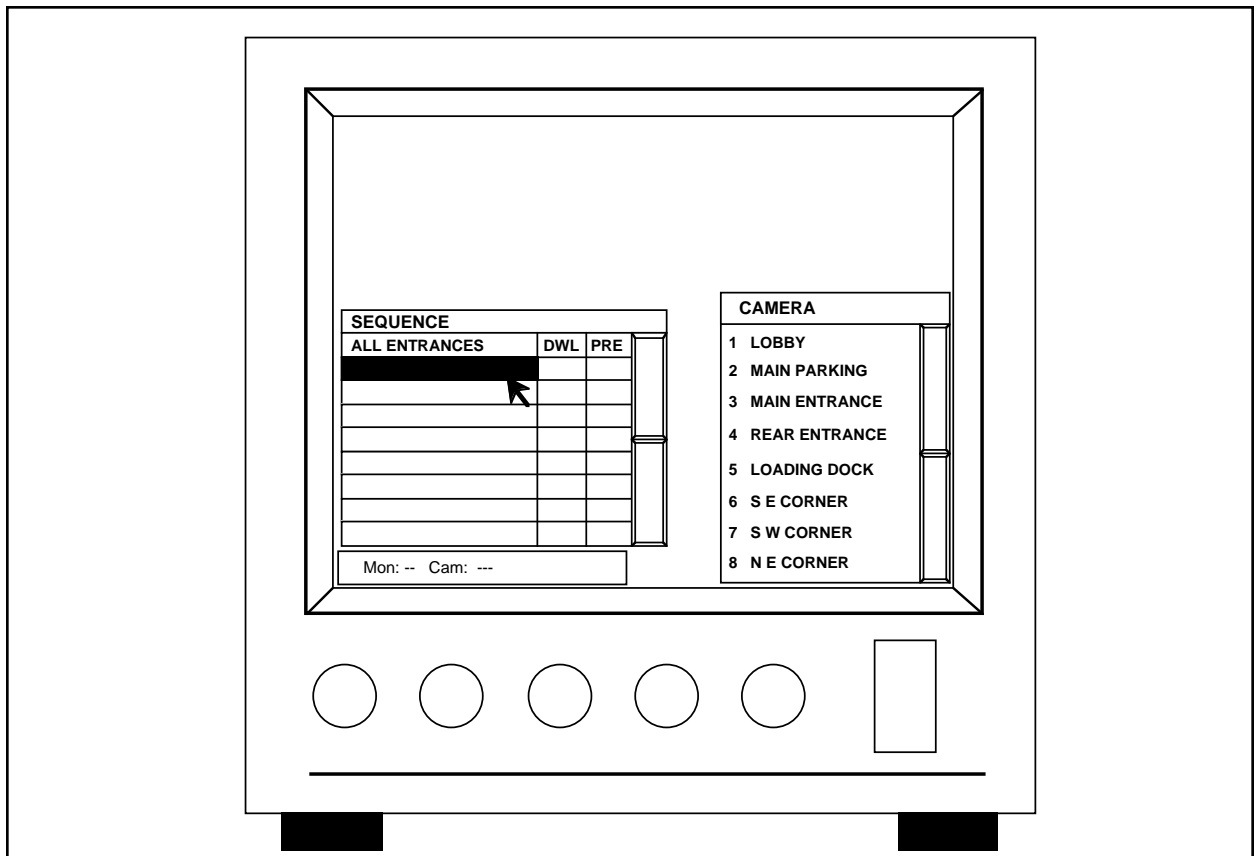

Figure 33. Sequence Programming Screen
2. To program a new sequence, position the cursor on a blank line and press the [**point**] button. To edit an existing sequence, move the cursor to the desired selection and press the [**point**] button. The monitor screen should now display the Sequence Definition Table on the left side of the screen and the Camera Selection Table on the right side of the screen. Refer to Figure 33.